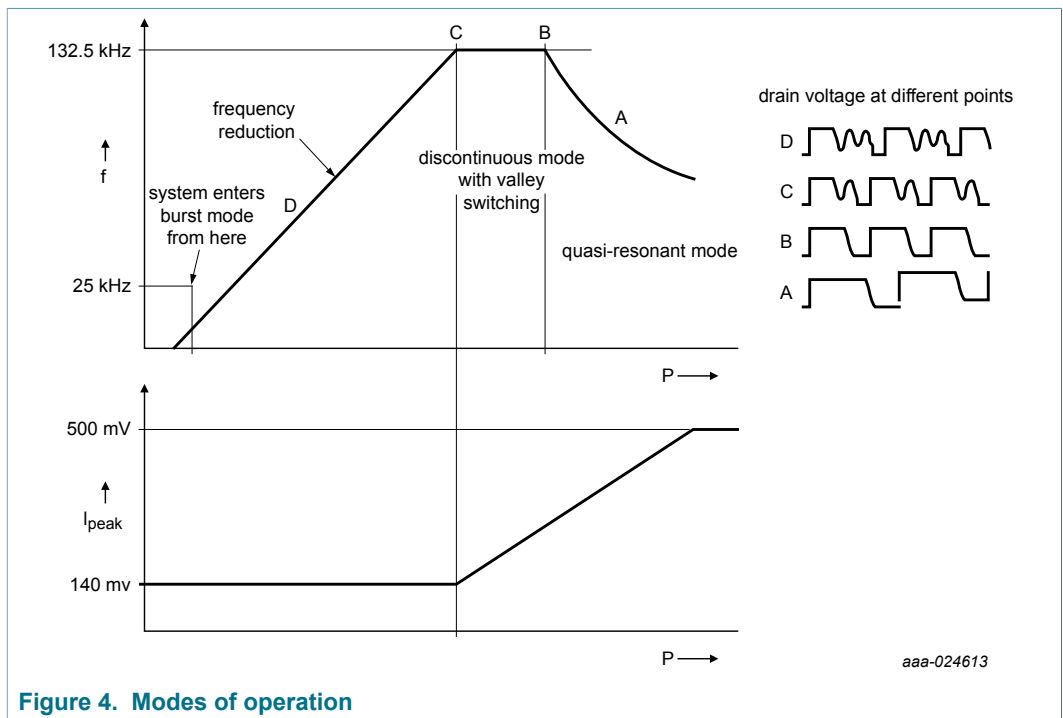

Figure 4. Modes of operation
The TEA1938T operates primarily in fixed-frequency DCM mode. At low powers, it enters burst mode. At high powers, it can operate in Quasi-Resonance (QR) mode (see Figure 4). The auxiliary winding of the flyback transformer provides demagnetization information.